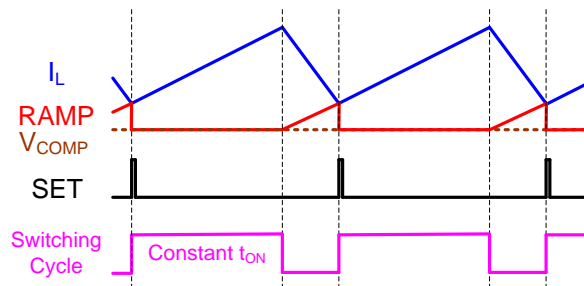

Figure 4: Switching Cycle Generation
The operational error amplifier (EA) corrects any error voltage between V_{FB} and V_{REF}. With the help of the EA, the MPQ8873 can provide excellent load regulation across the entire load range, regardless of whether the device operates in forced continuous conduction mode (FCCM) or discontinuous conduction mode (DCM). It also features internal ramp compensation. The adaptive internal ramp is optimized so that the converter is stable across the entire operating voltage range, with proper design of the external components. Figure 4 shows how the switching cycle is generated.